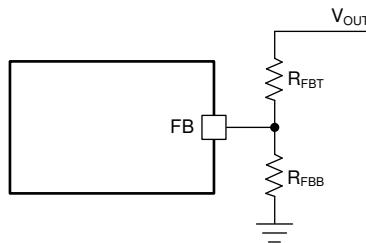

**Figure 8-1. SW Node and Inductor Current Waveforms in Continuous Conduction Mode (CCM)**
The following operating description of the LMR50410-Q1 refers to Section 8.2 and to the waveforms in Figure 8-1. The LMR50410-Q1 is a step-down synchronous buck converter with integrated high-side (HS) and low-side (LS) switches (synchronous rectifier). The LMR50410-Q1 supplies a regulated output voltage by turning on the high-side and low-side NMOS switches with controlled duty cycle. During high-side switch ON time, the SW pin voltage swings up to approximately  $V_{IN}$ , and the inductor current,  $i_L$ , increases with linear slope  $(V_{IN} - V_{OUT}) / L$ . When the high-side switch is turned off by the control logic, the low-side switch is turned on after an anti-shoot-through dead time. Inductor current discharges through the low-side switch with a slope of  $-V_{OUT} / L$ . The control parameter of a buck converter is defined as Duty Cycle  $D = t_{ON} / T_{SW}$ , where  $t_{ON}$  is the high-side switch ON time and  $T_{SW}$  is the switching period. The converter control loop maintains a constant output voltage by adjusting the duty cycle D. In an ideal buck converter, where losses are ignored, D is proportional to the output voltage and inversely proportional to the input voltage:  $D = V_{OUT} / V_{IN}$ .